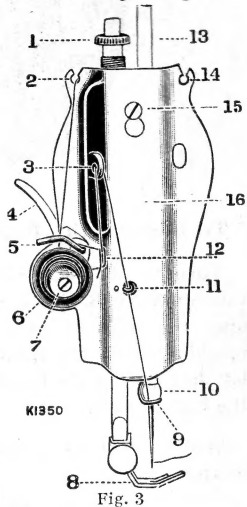
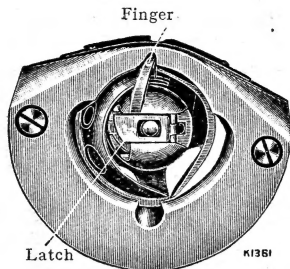
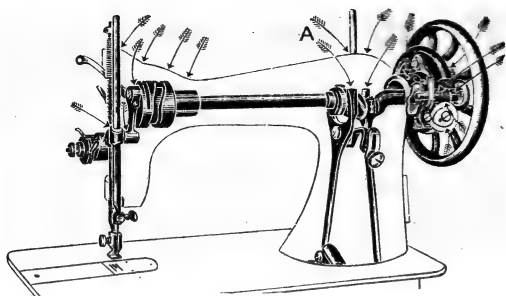
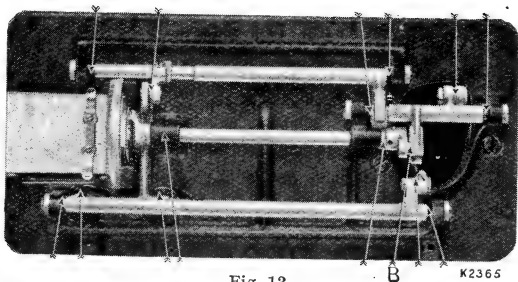

Fig. 3
Fig. 4
Fig. 12
Fig. 13
(See Fig. 3.)
Turn the balance wheel towards you until the take-up lever (3, Fig. 3) is at its highest point, draw open the slide in the bed of the machine and, reaching down the thumb and fore-finger of the left hand, open the latch (see Fig. 4) and withdraw the bobbin case.
of face plate (14, Fig. 3), then thread the bobbin winder by passing the thread first through the lower eyelet (5) of the thread guide from below and into the notch (2) at its top. Now pass the thread through a hole in the left disc of the bobbin from the inside, and with the left hand press the bobbin on to the spindle
After threading, hold the bobbin case by the latch between the thumb and forefinger of the left hand and replace it on the centre stud of the bobbin case holder, with its position finger opposite the notch at the top of the shuttle race, as shewn in Fig. 4; then release the latch and press the bobbin case back until the latch catches the groove near the end of the stud. Allow the end of thread to hang free, and close the slide in the machine bed.
Raise the take-up lever (3, Fig. 3) to its highest point and lift the presser foot; then move the material back and to the left, and sever the threads by passing them over the thread cutter above the presser foot. Leave the ends of the threads a few inches long under the presser foot.
For ordinary family sewing it is seldom necessary to change the pressure on the material. If sewing fine silk or flimsy material, lighten the pressure by giving the thumb screw (1, Fig. 3) two or three turns upwards. If it be found necessary to increase the pressure, give the thumb screw a few turns downwards.
Stop the machine when the take-up lever (3, Fig. 3) is at its lowest point, raise the presser foot and turn the work, as desired, using the needle as a pivot. Then lower the presser foot again.
All moving parts in contact must be covered with a film of oil **and not allowed to become dry**. Oil should always be applied at the points indicated by arrows in Figs. 12 and 13, a drop of oil being sufficient at any place. To oil the needle bar mechanism, remove the face plate (16, Fig. 3) by loosening the screw (15, Fig. 3) and slipping the plate up over it. When oiling, insert the oil can spout well into the oil holes. **It is most important that oil should be applied to point "A" Fig. 12 and to point "B" Fig. 13 when the needle bar (13, Fig. 3) is at its lowest point.** A drop of oil should also be applied to the shuttle race.
The thread take-up spring (12, Fig. 3) being broken.
Stitches Looping.—This is regulated by the tensions (see page 11). See that both the bobbin case and the needle are properly threaded, and that the thread used is of good quality and the correct size for the needle (see Table on inside of back cover). See that the spring (12, Fig. 3) is not broken.